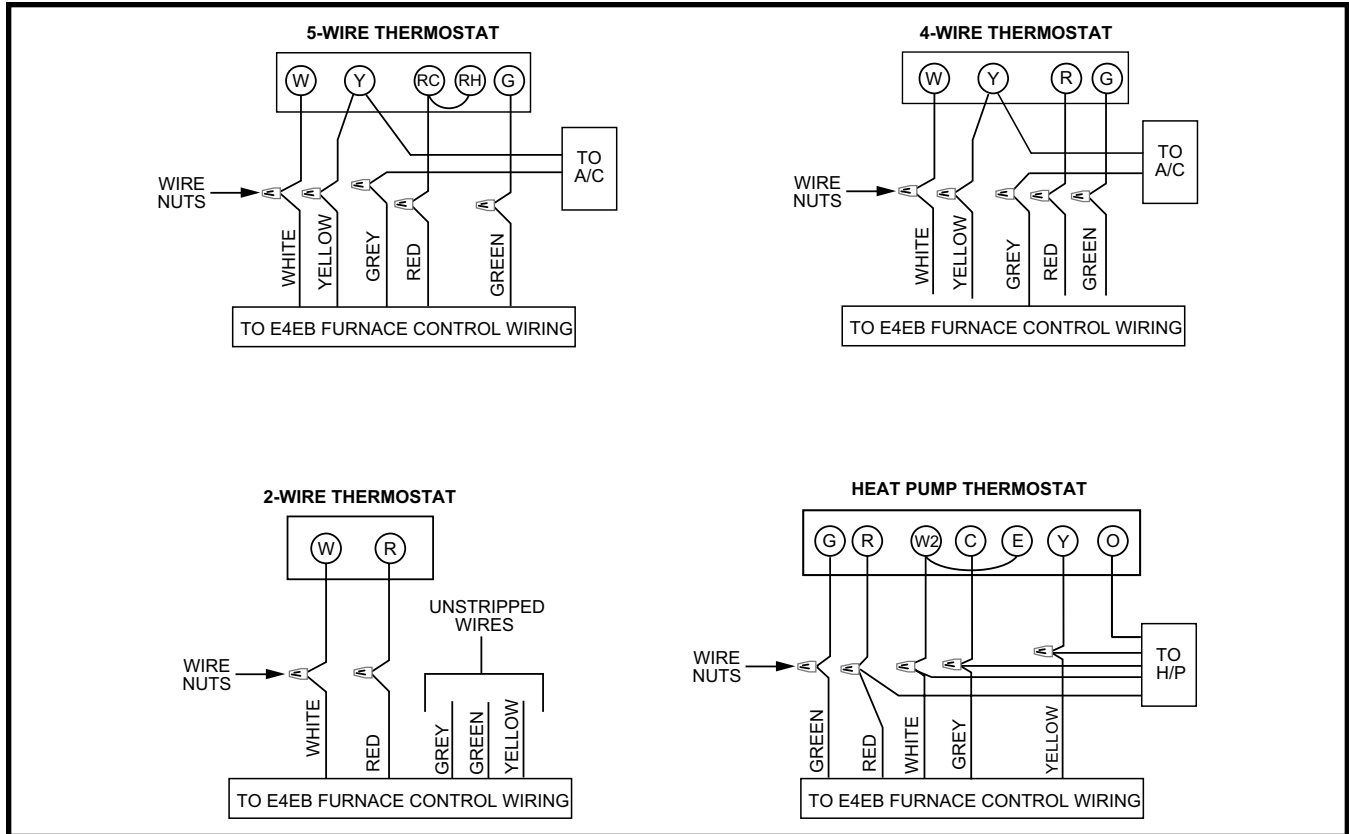

Figure 22. E4EB Thermostat Connection
- The thermostat should be mounted about 5 feet above the floor on an inside wall. DO NOT install the thermostat on an outside wall or any other location where its operation may be adversely affected by radiant heat from fireplaces, sunlight, or lighting fixtures, and convective heat from warm air registers or electrical appliances. Refer to the thermostat manufacturer's instruction sheet for detailed mounting information. See Figure 22 (page 18) for typical thermostat connections.
NOTE: Installation of a five-wire thermostat circuit is recommended for future addition of a heat/cool thermostat. See Figure 22 \(page 18\) for various E4 thermostat connections.